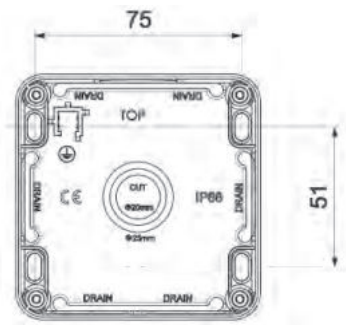

Fig. 1
- Remove the front assembly from the backbox and carefully lift off the gasket. Drill the required number of fixing holes into the backbox (see Fig. 1)